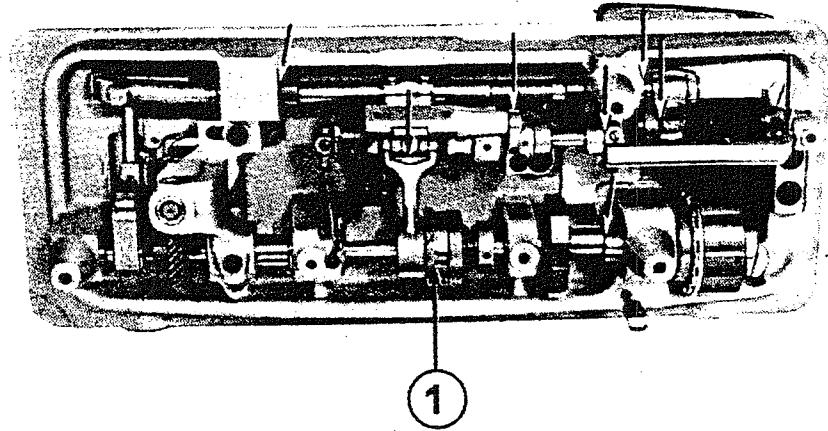
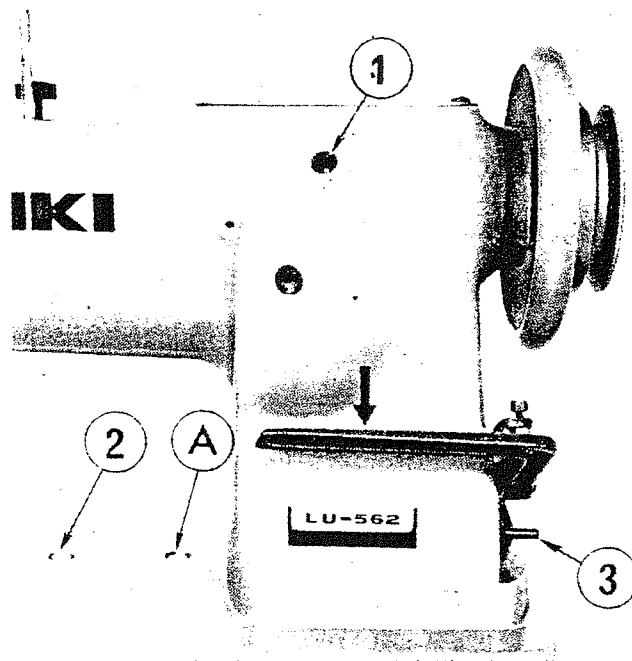
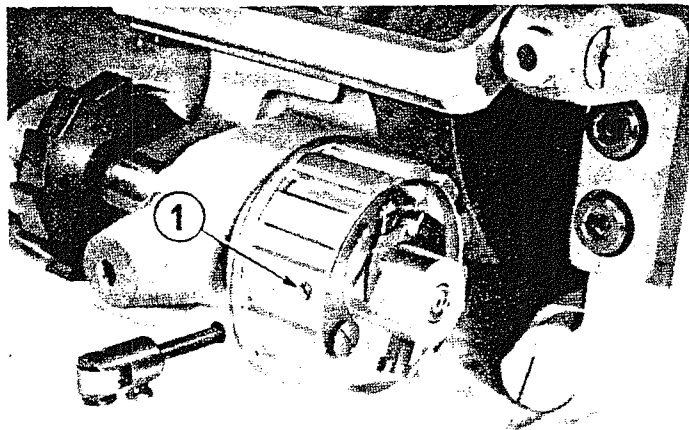
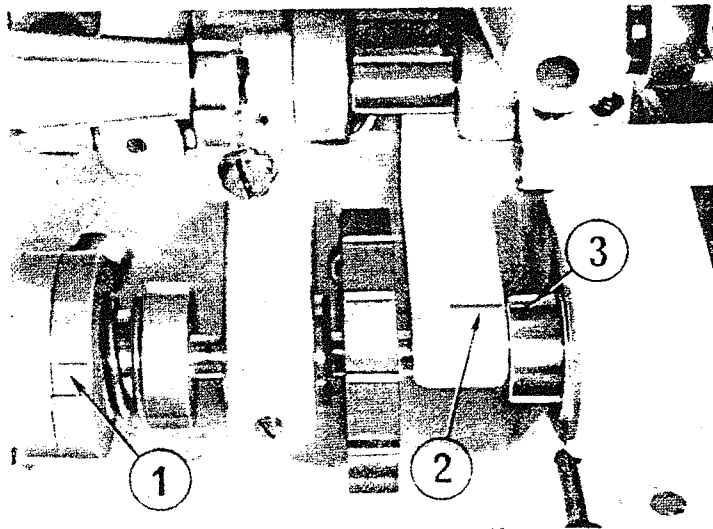

Fig. 5
Fig. 12
Fig. 15
Fig. 26
The graduation of the stitch length is marked on the feed graduation plate attached to the main shaft. (Fig. 12 ① ).
To adjust the stitch length, rotate the hand wheel slowly as you keep on pressing the push-button (Fig. 12 ② ) stop the bed until the tip of the push-button enter the groove (Fig. 5 ① ) of the eccentric mechanism.
When it is entered, rotate the hand wheel either towards you or away from you as you keep pressing the push button until the desired stitch length indicating mark on the graduation plate appears on the hole of the arm (Fig. 12 ①). When the desired stitch length indicating mark appears on the hole, release the push-button. But please note that the figure which appears on the hole of the arm (Fig. 12 ①) means so many stitches per 25.4 mm (1").
For reverse sewing, push the reverse feed control lever downwards until it hits the stopper (Fig. 12 ③). As long as this lever is kept down, the machine will do reverse sewing.
To set the safety clutch correctly, rotate the hand wheel strongly in the reverse rotational direction as you keep pushing the button (Fig. 12 A). To adjust the applying pressure of the safety clutch, release the timing belt and turn the adjusting screw (Fig. 15 1). If this screw is rotated to right, the applying pressure will increase and the clutch becomes difficult to be released, while if it's turned to left, the applying pressure becomes less and the clutch becomes easier to be released.
To adjust the correct position of the feed graduation disc (Fig. 12 1 ), at first loosen the set screws of the graduation disc. Then, adjust the stitch length to 3.17 mm (1/8" +) (Place a paper under the presser foot, rotate the hand wheel with your hand and after 11 stitchings, the overall length should become 31.7 mm (1-1/4"). Next, rotate the hand wheel while pressing the push button (Fig. 12 2 ) until the tip of the push button engages with the notch of the ratchet pawl on the feed rocker driving eccentric (Fig. 26 1 ) and when it is inserted, tighten the graduation disc to the main shaft so that the graduation scale of 8 comes out to the hole of the arm (Fig. 12 3 ).
When putting the belt around the lower sprocket wheel, rotate the hook driving shaft with your hand keeping the thread take-up lever in the highest position, and after matching the hook driving shaft timing indicator's arrow (Fig. 26 ② ) with the arrow of the hook driving shaft rear bushing (Fig. 26 ③ ), put the belt around the lower sprocket wheel. Thus, the feed timing with respect to the needle bar becomes correct.